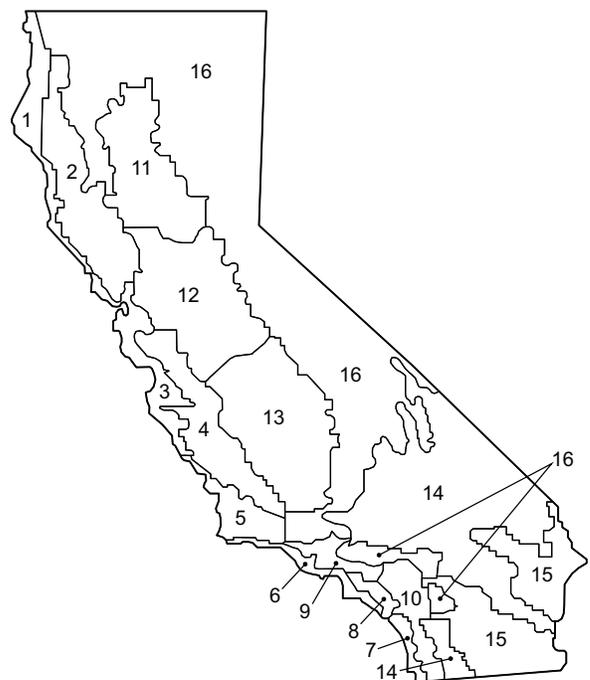

Fig. 76 – California Title 24 Zones
- b. Refer to Fig. 76 for map of California Title 24 zones.